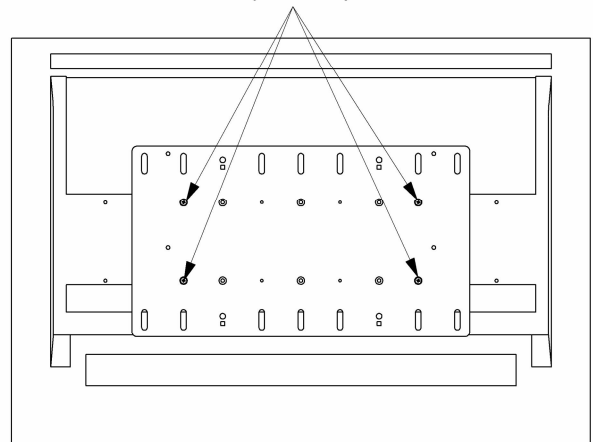

Figure 10. Display with 300mm x 100mm Hole Pattern
1. Select four flat head M4 screws (80) from Bag A and four spacers (150) from Bag C.
2. Attach the interface bracket (20) using the hole-pattern on the back of your display as shown in Figure 10.